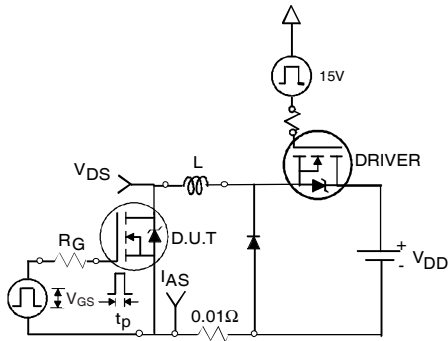

Fig 12a. Unclamped Inductive Test Circuit
- ③ Pulse width $\leq 1.0\text{ms}$; duty cycle $\leq 2\%$.
- ④ $C_{oss\text{ eff.}}$ is a fixed capacitance that gives the same charging time as C_{oss} while V_{DS} is rising from 0 to 80% V_{DSS}
- ⑤ Limited by T_{Jmax} , see Fig.12a, 12b, 15, 16 for typical repetitive avalanche performance.
- ⑥ This value determined from sample failure population, starting $T_J = 25^\circ\text{C}$, $L = 0.11\text{mH}$, $R_G = 25\Omega$, $I_{AS} = 37A, V_{GS} = 10V$.
- ⑦ When mounted on 1" square PCB (FR-4 or G-10 Material). For recommended footprint and soldering techniques refer to application note #AN-994.
- ⑧ R_θ is measured at T_J approximately 90°C .
3. Equation below based on circuit and waveforms shown in Figures 12a, 12b.